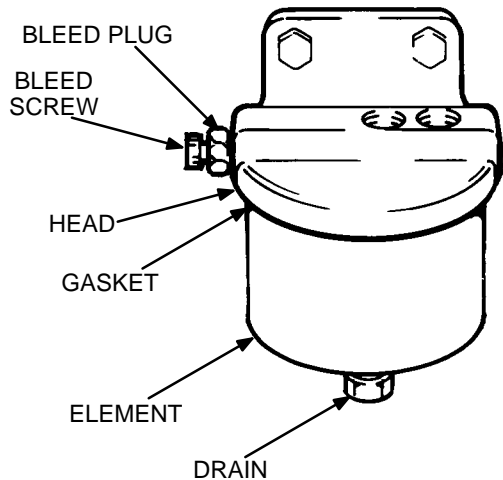

FIGURE 9. FUEL FILTER ASSEMBLY
1. Loosen drain and bleed screws. Collect fuel in suitable container. Remove bleed plug. See Figure 9.